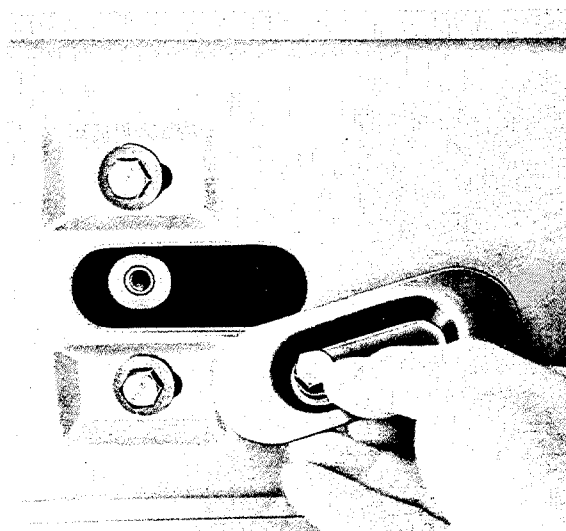

Fig. GW 1a/3
Do not forget sealing ring (9) between slotted nut and centering star on transmission and rear axle (see Fig. GW 1a/01).